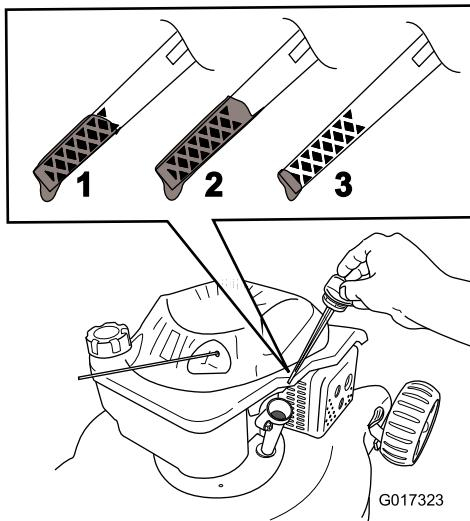

Figure 26
4. Remove the dipstick (Figure 26).
- Read the oil level on the dipstick (Figure 26).